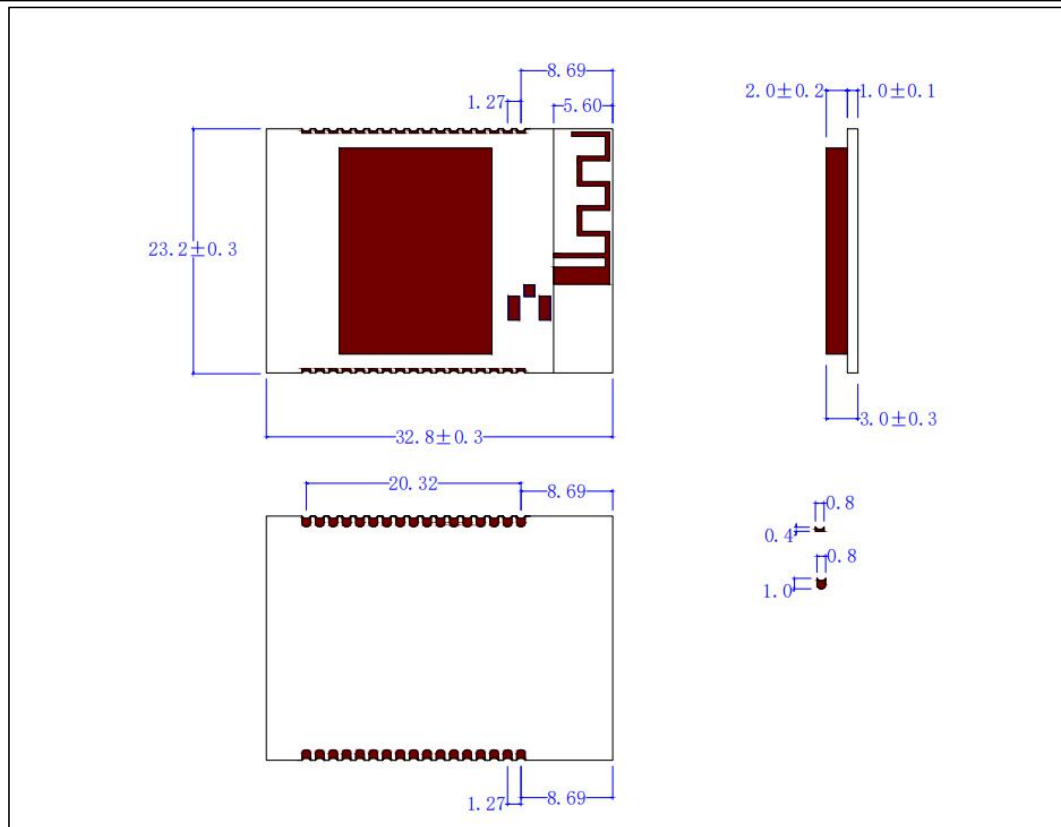

Figure 3. X-C13SL-1 Physical Dimensions
| FIGURE 3. X-C13SL-1 PHYSICAL DIMENSIONS..... | 10 |
- X-C13SL-1 Physical Dimensions (Unit: mm),please refer to Figure 3: